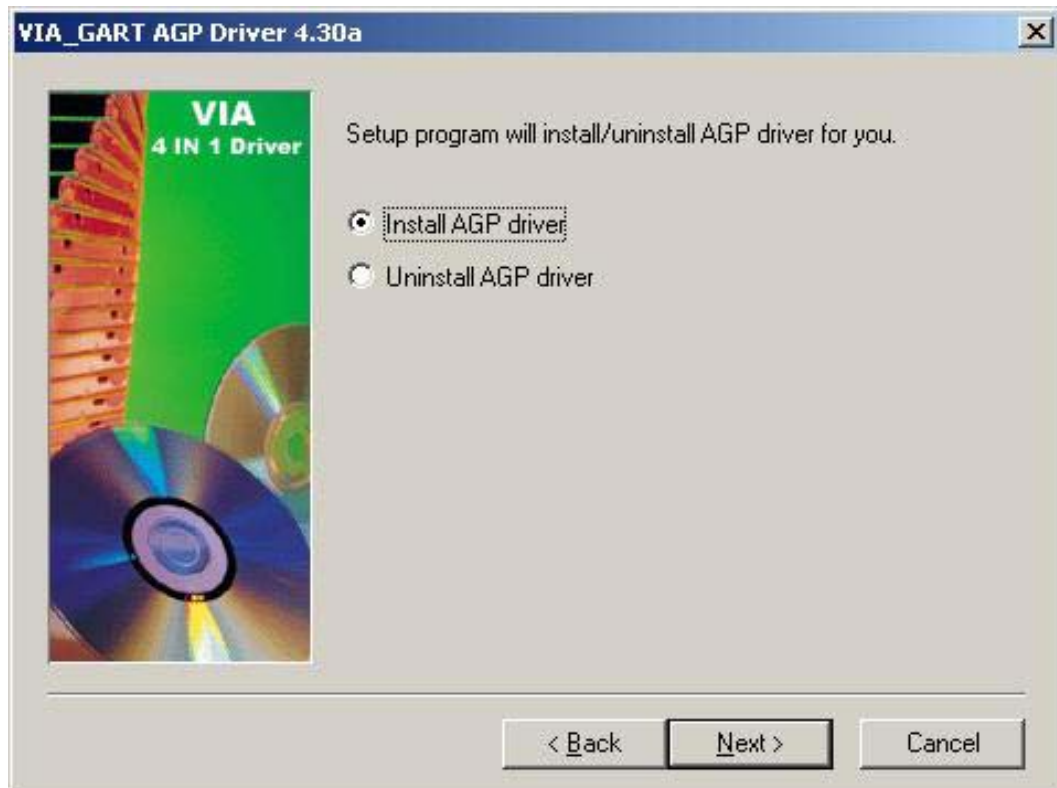

Figure 6-8: AGP Driver Selection
Step 9: The setup then prompts the user (see **Figure 6-8**) if the AGP driver must be installed on the system. Select install or uninstall. Click "**NEXT**" to continue.